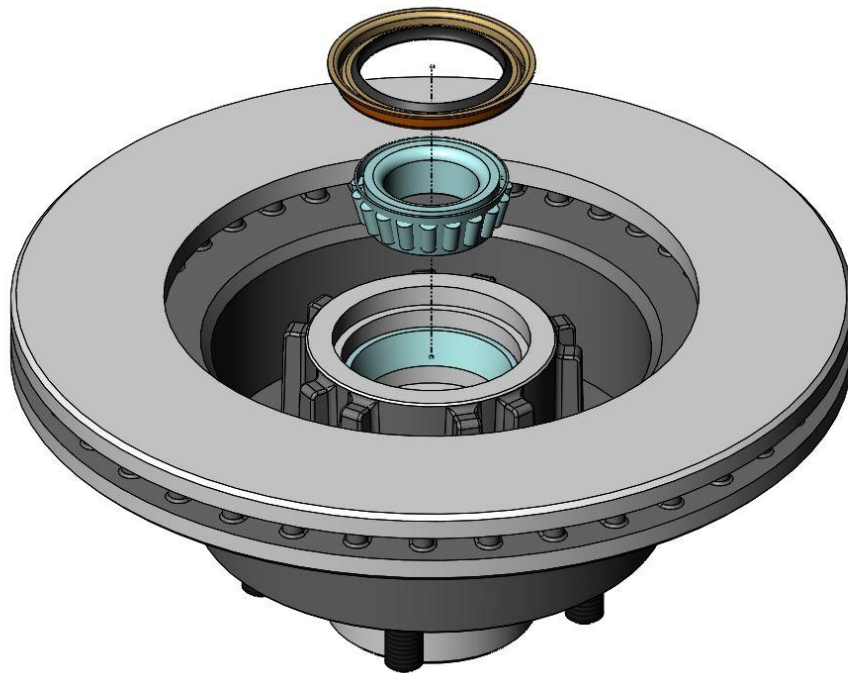

Figure 4 – Inner Wheel Bearing and Grease Seal Installation
8. The wheel bearings can now be packed with a high quality wheel bearing grease available at your local parts store and the bearings can be installed in the rotors at this time. Once the inner bearing is installed, tap the inner seal in at this point. Figures 4 shows the bearing and seal being installed.